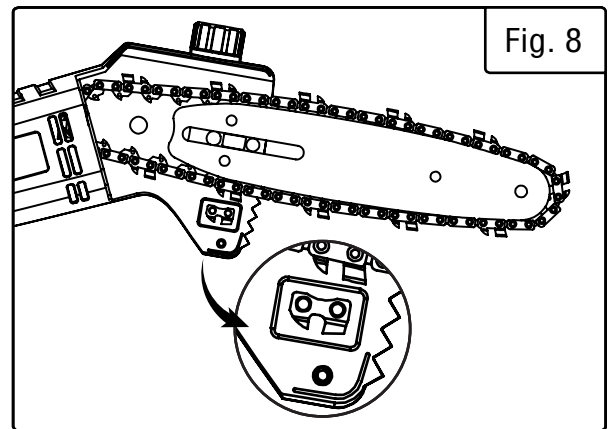

Fig. 8
**NOTE:** The chain's direction must match the indication shown on the inside housing or in Fig. 8.
5. Place the guide bar and chain onto the bar mount (Fig. 8). Guide the chain around the drive pinion.